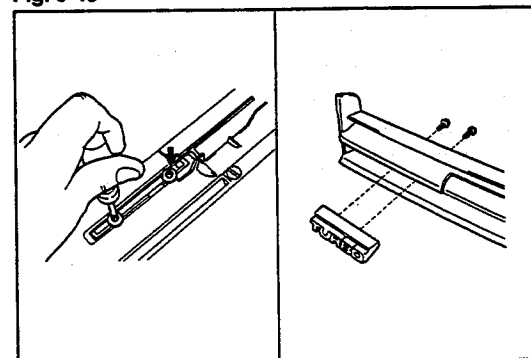

Fig. 9-44
1. Install the emblem (TURBO) with the two screws. (See Fig. 9-44.)